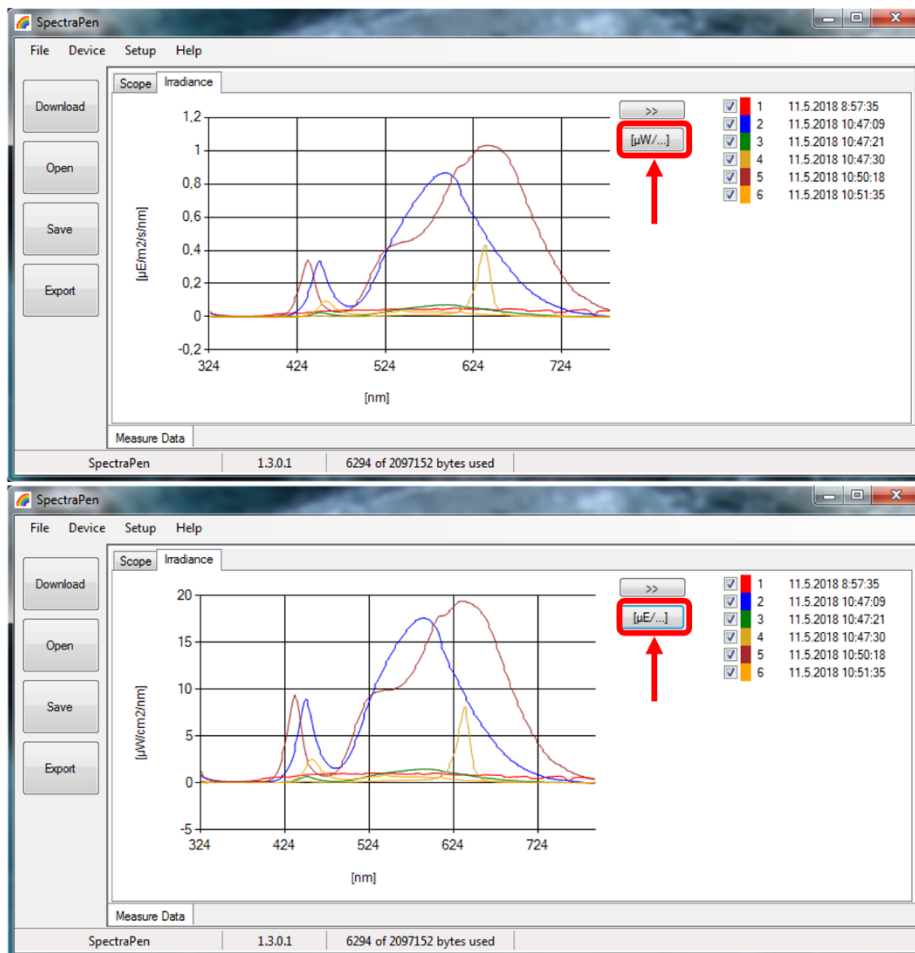

Fig. 32 Irradiance shown in different units.
10. Select **Irradiance** tab to view the irradiance data stored either as  $\mu\text{mol}/\text{m}^2/\text{s}/\text{nm}$  or per  $\mu\text{Watts}/\text{cm}^2/\text{nm}$ . To change the units in which the spectra is displayed click on the unit icon as shown in (Fig. 32)Error! Reference source not found..
- To view the light meter data for the spectral scans acquired click on the unit icon as depicted by red arrow in Fig. 32. **Error! Reference source not found.** Irradiance and illuminance **light meter numerical values** for each scan are displayed as LUX, PAR or IRRADIANCE